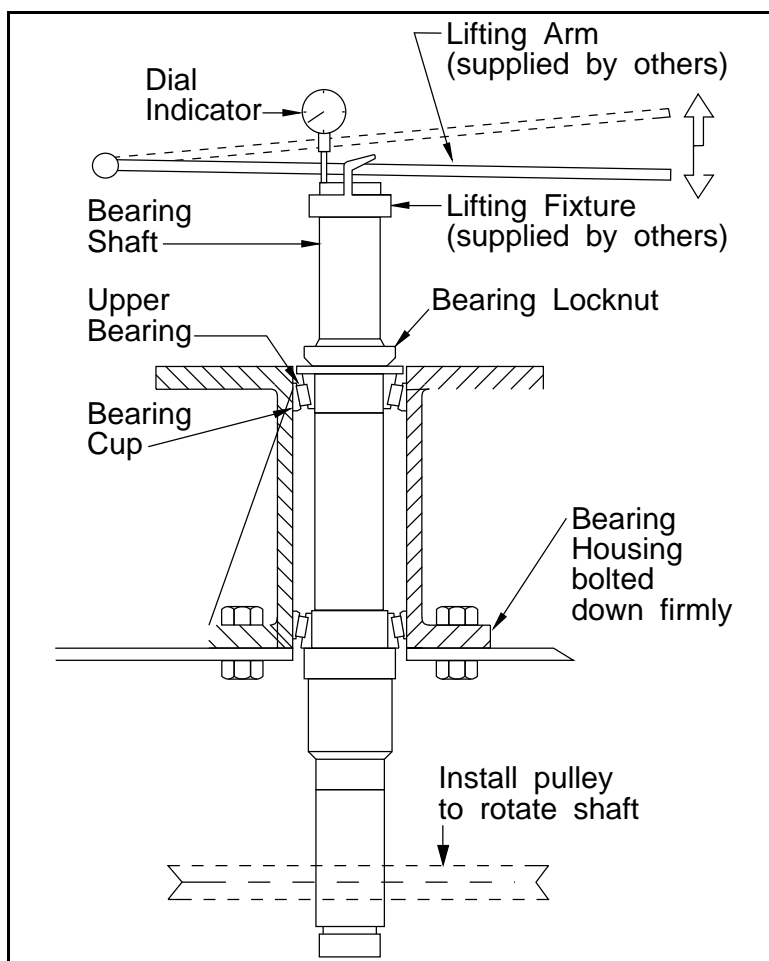

FIGURE 2 (MSSM0127AE)
1. Set up the bearing housing as shown in FIGURE 2.